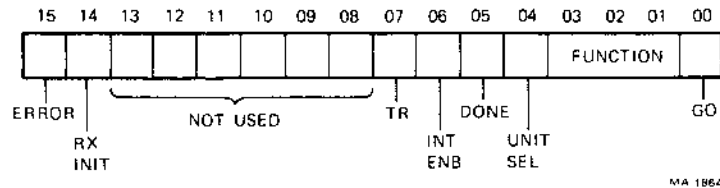

Figure 4-17 RXCS Format (RX11, RXV11)
4.2.2.1 RXCS – Command and Status (177170) – Loading this register while the RX02 is not busy and with bit 0=1 will initiate a function as described below and indicated in Figure 4-17. Bits 0-4 are write-only bits.